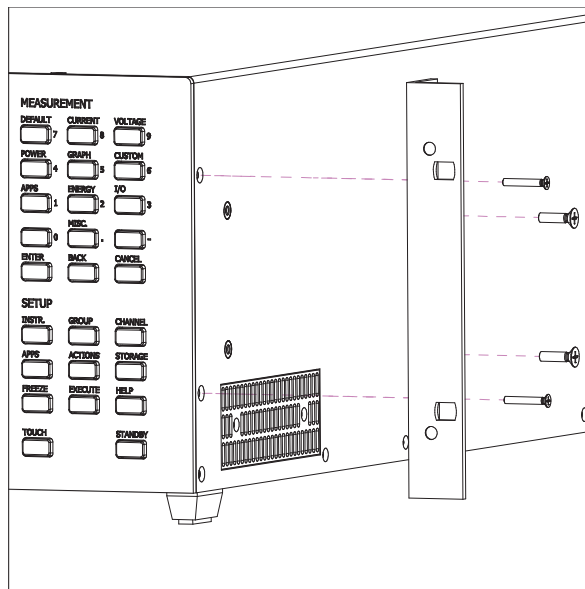

Figure 5.3: Montage des 19''-Montagesatzes (LMG671)
- The brackets are mounted usind the shipped M4x8 screws with spring washers and 2 of the removed M3x8 fillister head screws (see Figure 5.3 [→88]).